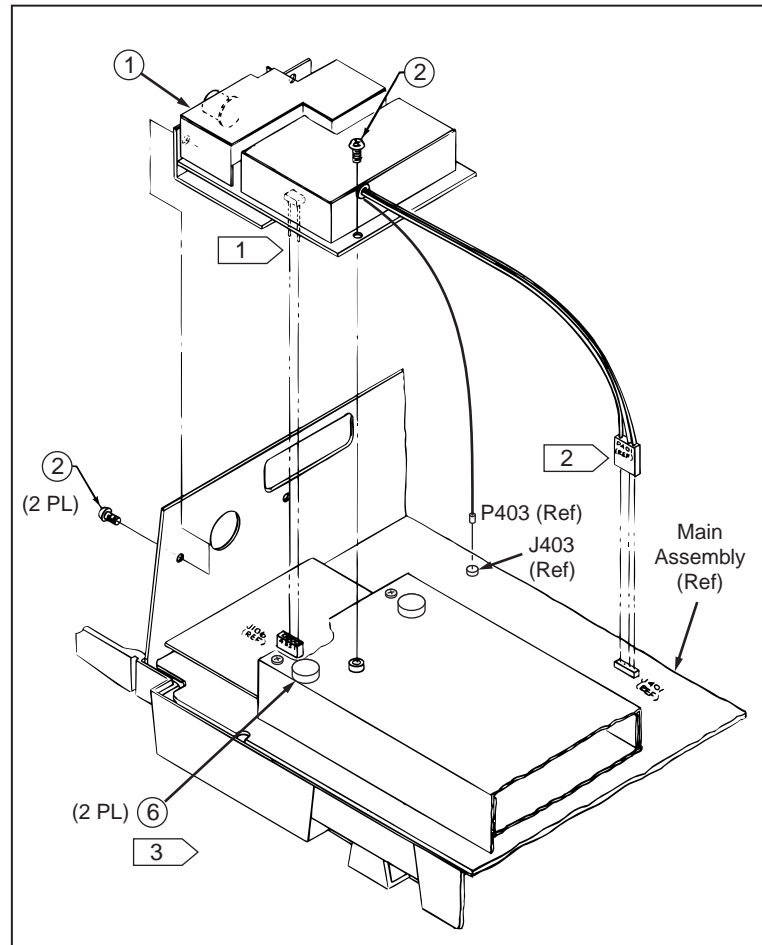

Figure 603-1
5. Place the rubber foot on the AC shield near the screws as shown in Figure 603-1.
On page 603-2, replace Figure 603-1 with: